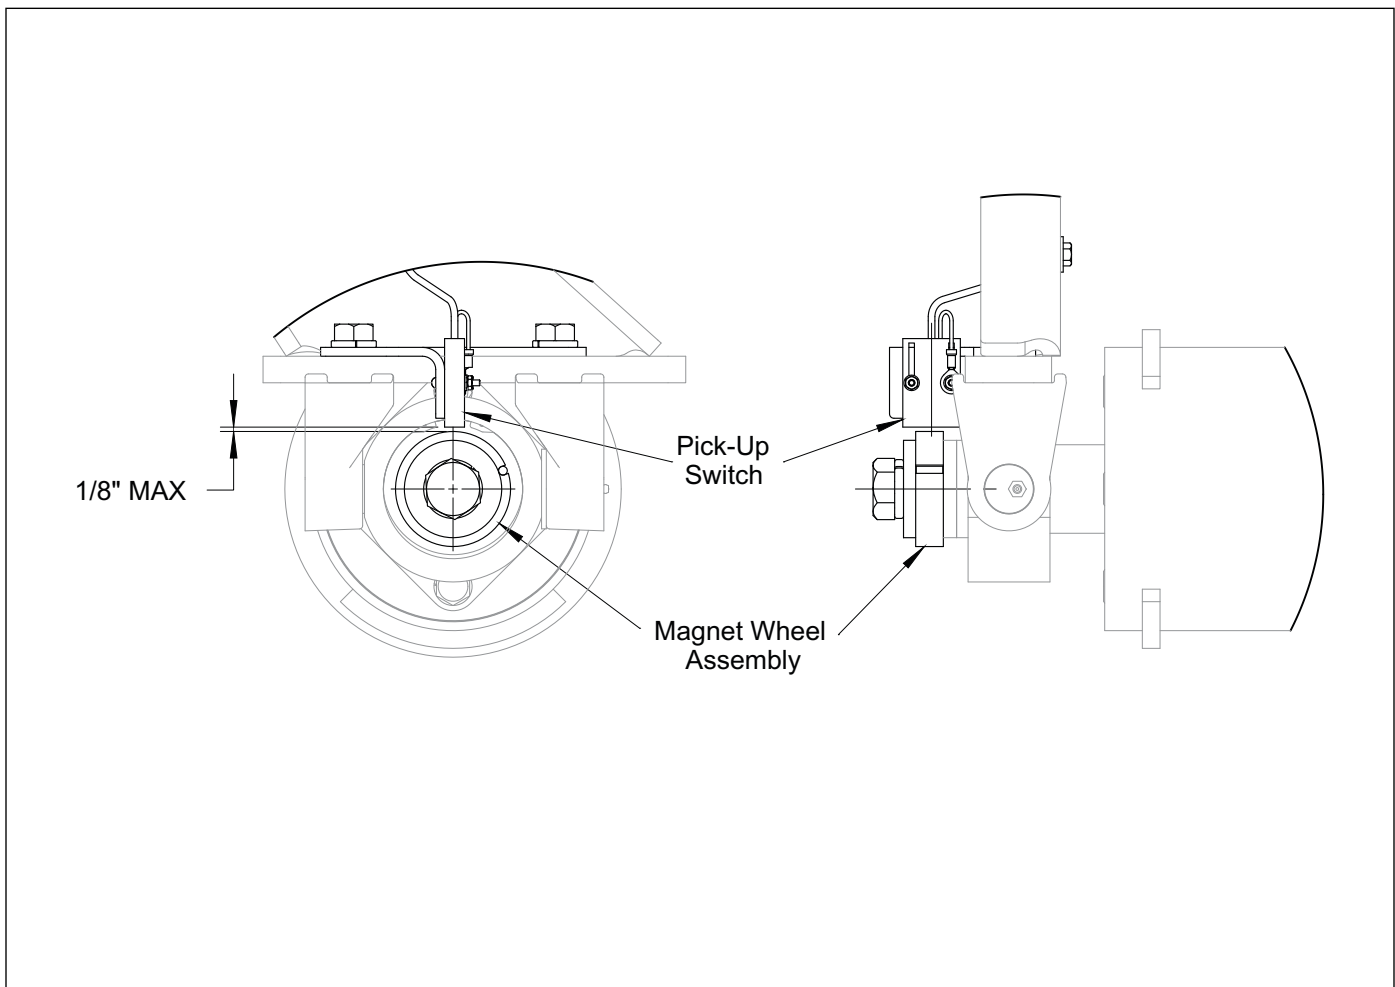

Figure 2-26: Pick-Up Switch Side View
5. Adjust the Acre Meter Switch so the center line of magnet wheel and pickup switch are horizontally and vertically aligned with a maximum 1/8" between magnet wheel and pickup switch. Now firmly tighten all screws. See **Figure 2-26**.